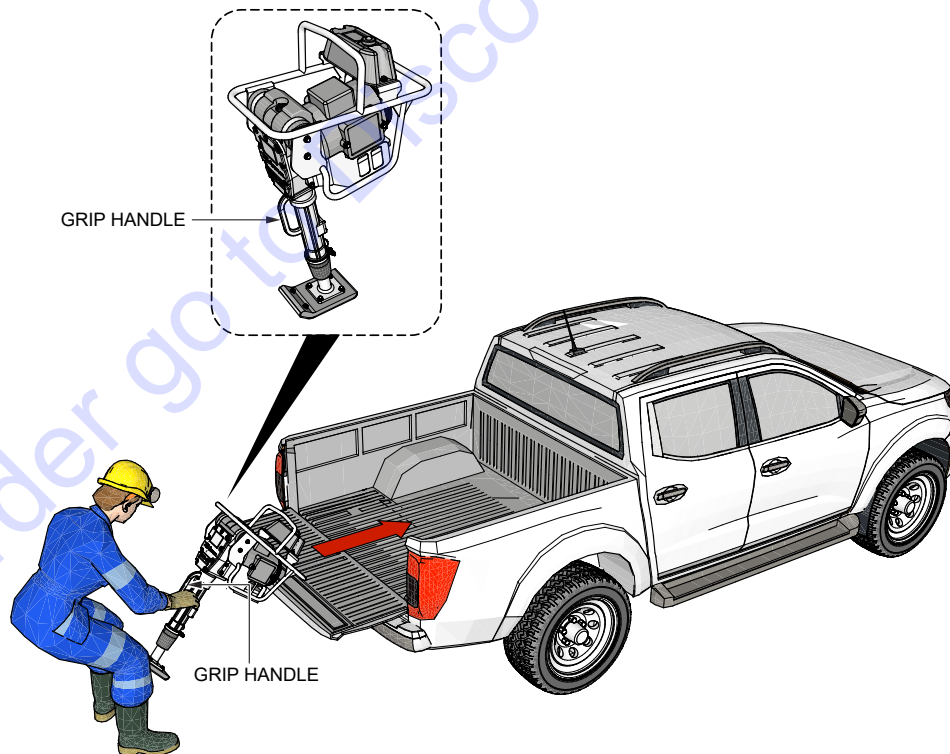

Figure 5. Loading Rammer Onto Truck Bed
1. Tilt rammer so that it makes contact with the edge of the truck tail gate as shown in Figure 5.